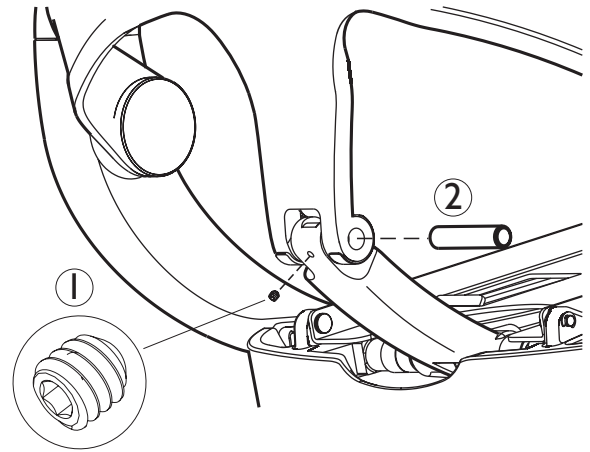

Figure 8. Removing the cross pin
- 1** Loosen the Set Screw (Figure 8, item 1) which secures the steel Cross Pin (Figure 8, item 2).